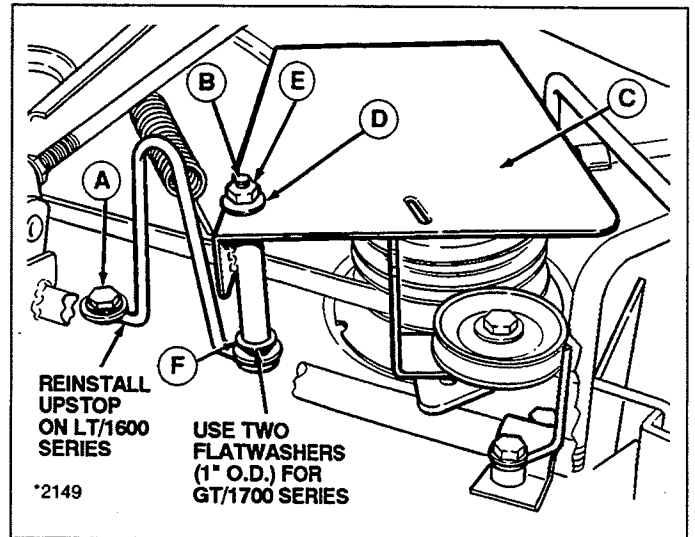

Figure 7.
11. See figure 7. On LT/1600 models, reinstall upstop using existing taptite screw (A) and flat washer at left hand leg. Use existing flat washer and long stud (B) at right hand leg.
12. See figure 7. Install washer (F) on stud (B). Install belt cover (C) and secure with washer (D) and nut (E). Tighten nut so there is slight resistance when cover is rotated on the stud.